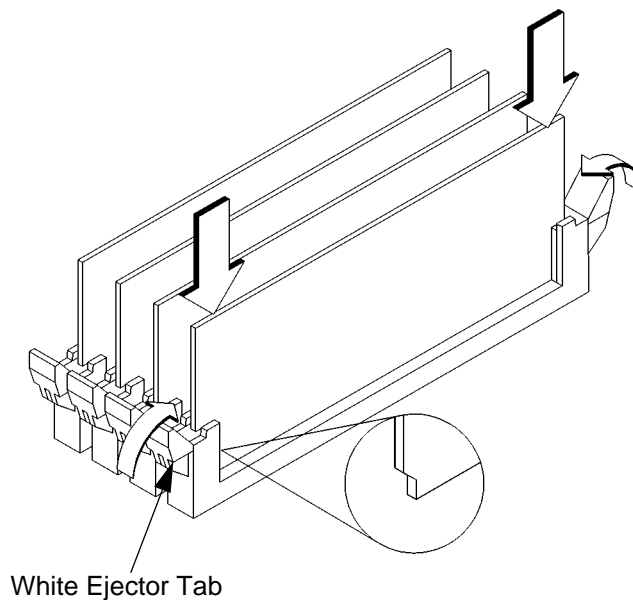

Figure 8 **Installing a Memory Module**
- 2 To install a memory module, close the ejector tabs on each side of the memory connector and line the memory module up with the guides, as shown in Figure 8. Make sure that the notched end of the memory module is toward the white ejector tab, or to the rear of the main tray, as shown in Figure 8.